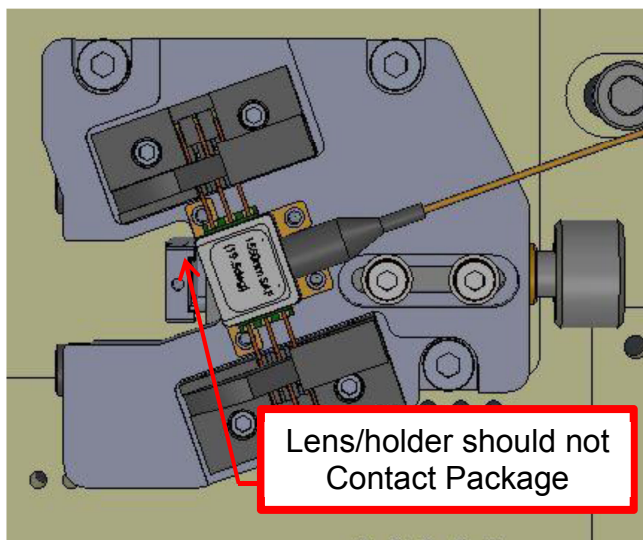

Figure 4 Lens Holder and Gain Chip
Step 3: Attach the focus adjuster (TLK-FM1) under the gain chip platform. Two sets of M3 screws, spring washers, and washers mount the focus adjuster to the tunable laser top plate. The screws should not be tightened completely as the position of the focus adjuster must be aligned in later steps. To avoid damage to the gain chip, slide the focus adjuster forward (to the left in Figure 4) so that the screws attaching it to the gain chip platform move to the left in the slot leading towards the half butterfly package. This will provide space to attach the lens mount in the following step without touching/damaging the gain chip.